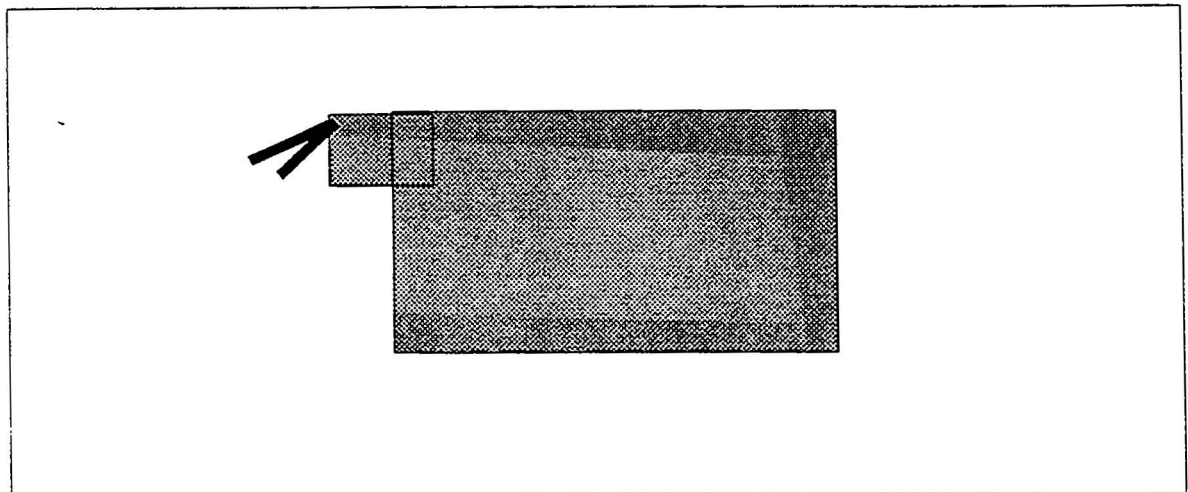

Fig. 5-7 Beam Catcher Installation
3. Post Its can be placed onto the beam catcher for easier verification of the beam on the assembly (Fig. 5-7).